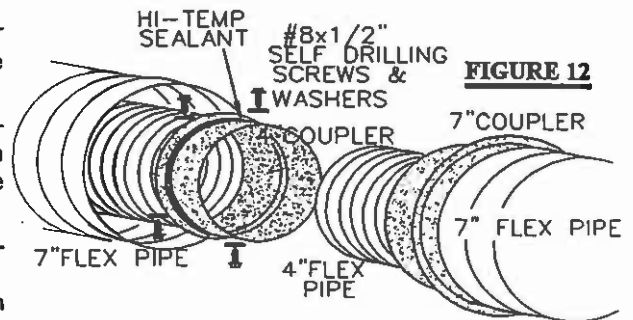

FIGURE 12
5. If more than one length of liner needs to be used to reach the fireplace, couple them together as illustrated in FIGURE 12. Seal the joints using the same procedure as described in points 2 and 3. The vent system must be supported every 3 feet, for both vertical and horizontal runs. Use Napoleon support GA-GD-010.370 or equivalent noncombustible strapping to maintain the 1" clearance from combustibles.